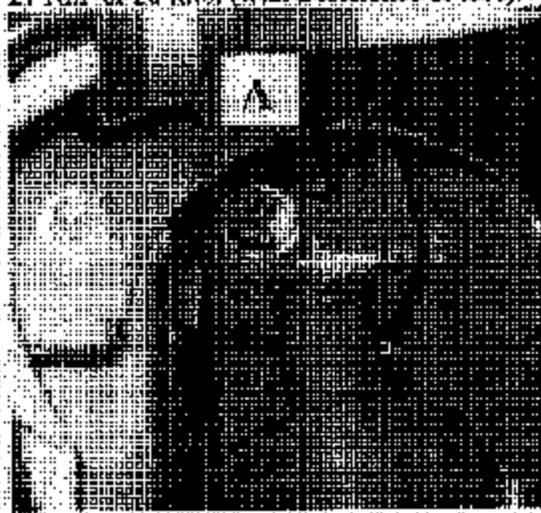

Fig. 3
- 1.3. Tighten the bolt (A) of the Upper Steering Shaft Coupler show in Fig. 3 between the steering shaft and the steering column using a torque wrench to 27 Nm or 20 ft.lb. (with a tolerance of 15%).
- 1.4 After tightening the bolt, mark with yellow paint. See Fig. 3.